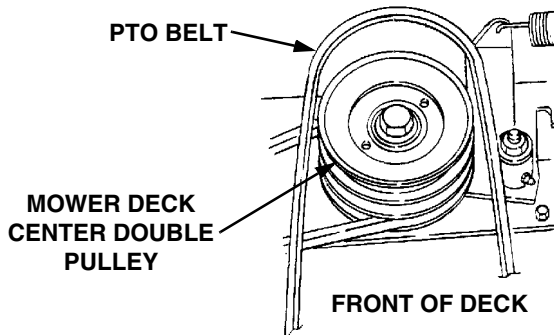
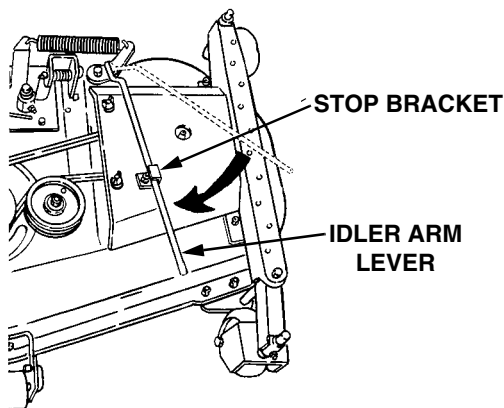

Figure 48
Figure 49
- Remove the rearward end of the PTO belt from the upper pulley of the deck center double-pulley (Refer to Figure 48). Engage the deck idler arm lever back into its stop bracket (See Figure 49).